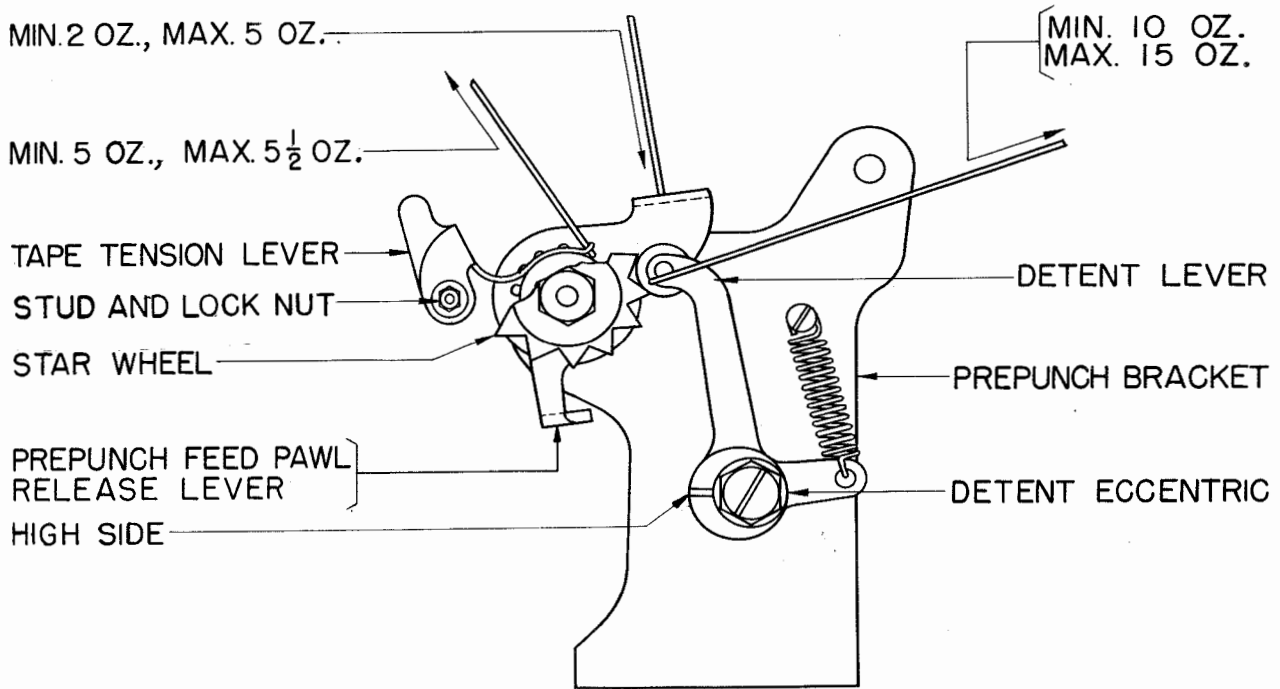

Figure 46
2.78 Prepunch Tape-tension-lever Spring: It shall require a pull as indicated in Figure 46 to just pull the lever away from the feed roll.
2.79 Prepunch Feed-roll Detent (Preliminary Adjustment): The high side of the detent eccentric shall be positioned toward the left with the slot horizontal. See Figure 46.
To Adjust: Loosen the feed-roll-detent-eccentric mounting-screw and rotate the eccentric, keeping the high side toward the left. See Figure 46.
2.88 Prepunch Feed-roll Detent-lever Spring: It shall require a pull as indicated in Figure 46 to just start the detent roller moving away from the star wheel.
2.90 Prepunch Feed-pawl Release-lever Spring: It shall require a push as indicated in Figure 46 to just start the prepunch feed-pawl release-lever moving.